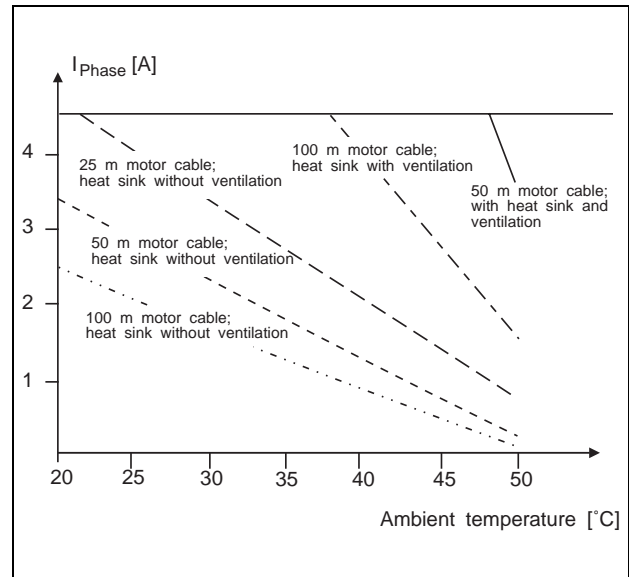

Fig. 2-24 Admissible phase current as a function of ambient temperature and motor cable length
5. Set motor phase current at selector switch (01) in accordance with the motor type plate and the following diagram (fig. 2-24):